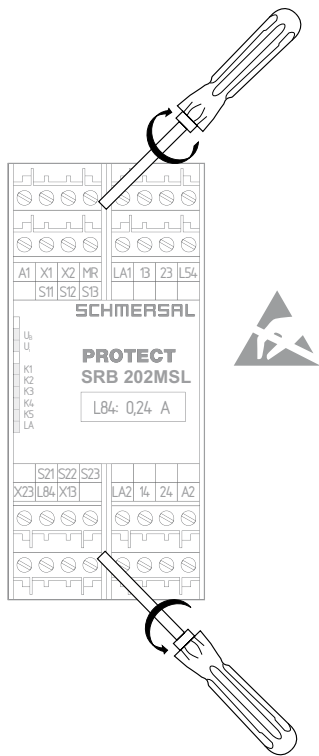

Fig. 2
- The enclosure must be opened to set the signalling output L84. To open the front cover, insert a slotted screwdriver in the top and bottom cover notch and gently lift it (Fig. 2). When the front cover is open, the electrostatic discharge requirements must be respected and observed. After setting, the front cover must be fitted back in position.